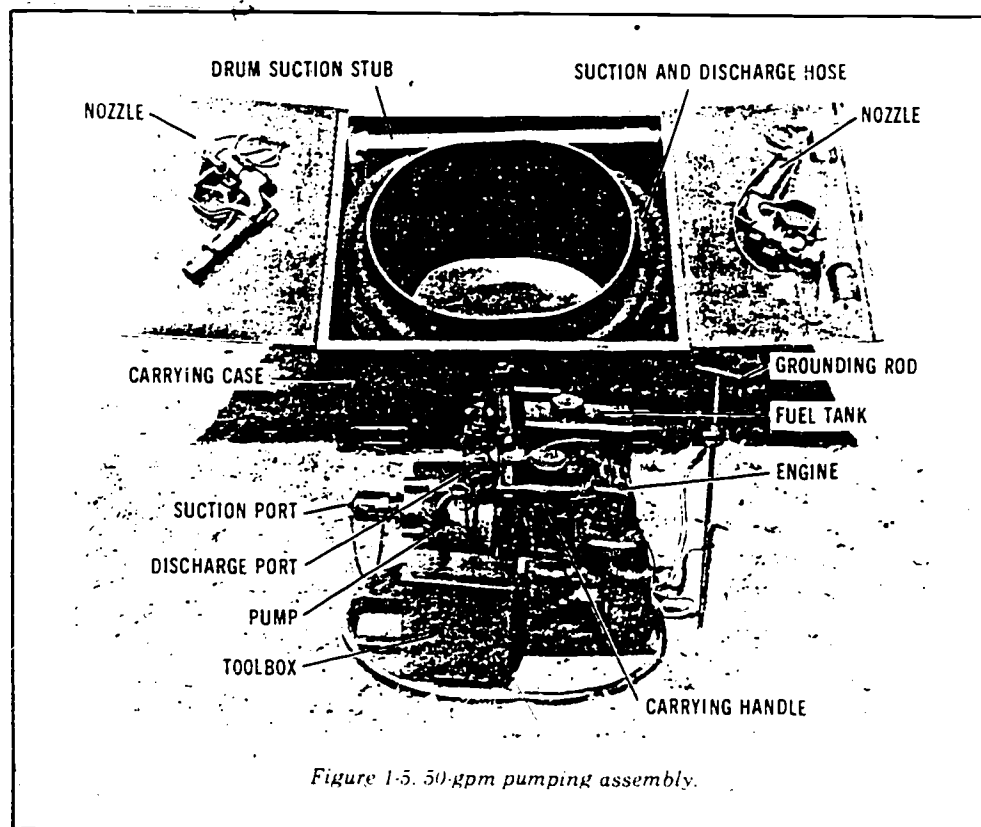

Figure 1-5. 50-gpm pumping assembly.
■ **Description.** The 50-gpm pumping assembly (fig 1-5) consists of a pump and engine assembly mounted on an oval aluminum base. The assembly has sections of suction and discharge hose, two 1 1/2-inch dispensing nozzles, a drum-unloader suction stub, and two toolboxes containing tools and accessories. The pumping assembly is equipped with a carrying handle and fits into